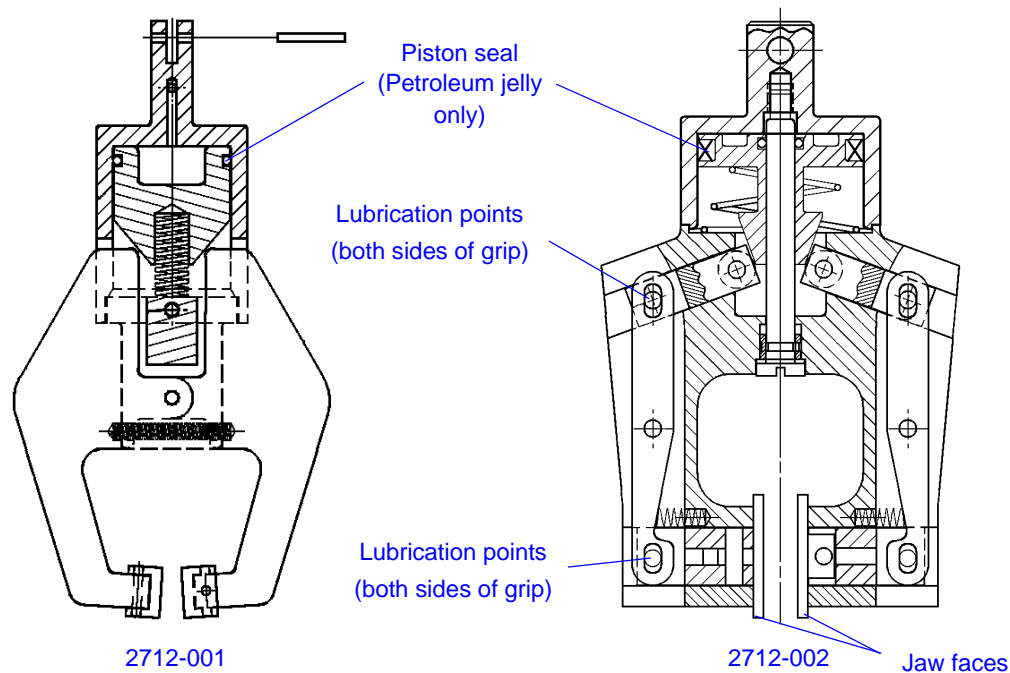

Figure 5-1. Series 2712 Grips Lubrication Points
For Series 2712 grips, lubricate the moving parts of the grips using a G-N paste (Instron part #105-1-28). Refer to Figure 5-1 on page 5-3 to identify the lubrication points. Note you need to remove the jaw faces to lubricate the area behind the faces.
4. Apply a thin film of the proper lubricant to the moving parts. Refer to Figure 5-1 on page 5-3.